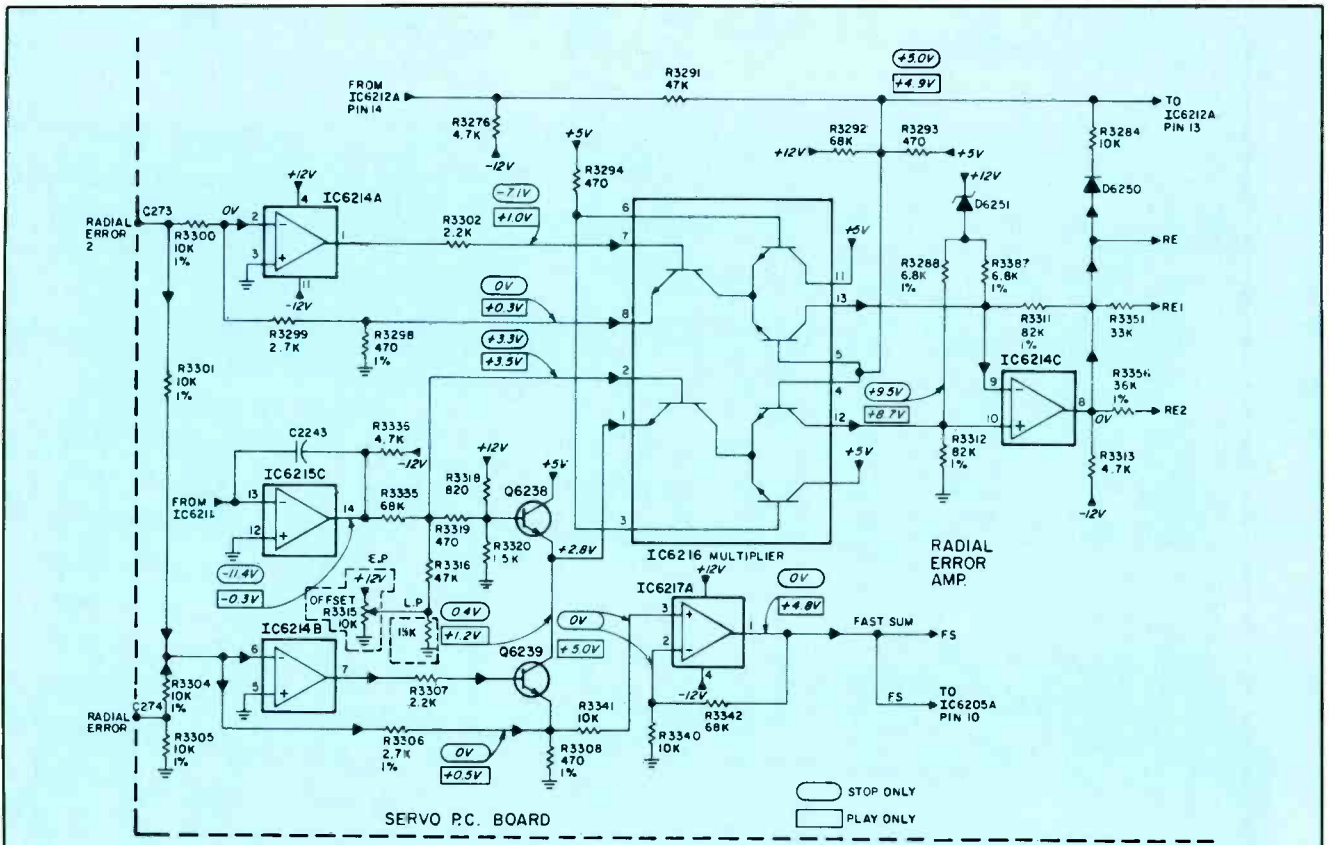
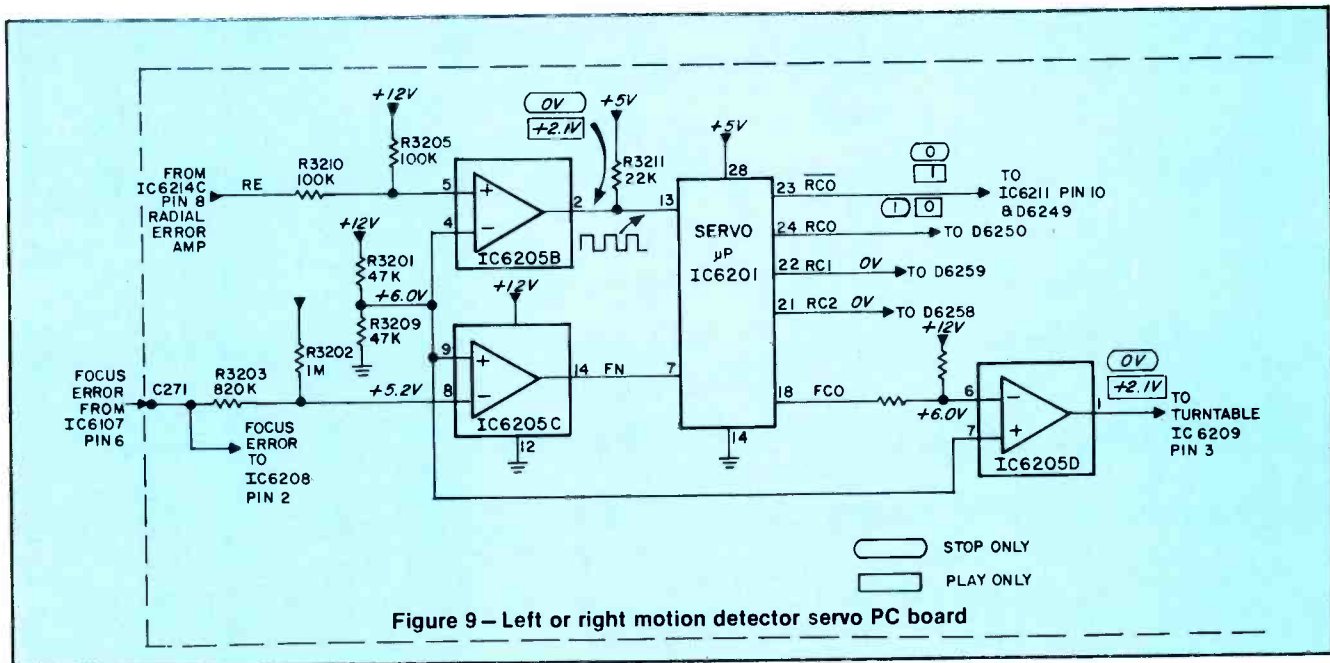

Figure 3 – Radial error amp servo PC board
Figure 9 – Left or right motion detector servo PC board
The error sum signals are applied to the radial error amp, Figure 3, at connectors 273 and 274 and are amplified by IC6214A and B. The amplified error signals are applied to pin 1 and 7 of the multiplexer IC6216, which is used to combine additional factors to the system and maintain stability over the radial tracking servo loop. The outputs from IC6216 are applied from pins 12 and 13 to IC6214C pins 9 and 10. The radial error signal on pin 8 of IC6214C
Because the 650Hz signal is present throughout the system and because the system is a closed loop, the sine wave is present in the radial error signal on pin 8 of IC6214C, Figure 3. The RE2 signal is applied through a low frequency bandpass filter to IC6215D; therefore, the 650Hz signal is only allowed to pass to the input of IC6215D. IC6215D in conjunction with D6252 creates a square wave signal, which is applied to pin 9 of IC6211. The square wave signal opens and closes the loop switch at the 650Hz
on pin 4 between the two inputs on pins 3 and 5 at a 650Hz rate. The signal developed on pin 4 of the loop switch is the feedback to pin 13 of IC6215C, Figure 3. The output on pin 14 of the IC is the average dc voltage level to control the gain of the stage connected on pin 2 of the multiplier IC6216.
Figure 9 shows the left and right motion detector circuit. The radial error (RE) signal from IC6214C pin 8, Figure 3, is applied to pin 13 of the servo microprocessor. The microprocessor measures the time between two consecutive positive going signals, which is approximately 0.5ms. If the speed of the arm's motion across the tracks is constant, the time between the two consecutive pulses will also be constant. If the speed is too slow, the time between the positive going edges of the square wave will be longer than nominal. If the speed is too high, the time will then be shorter than nominal.